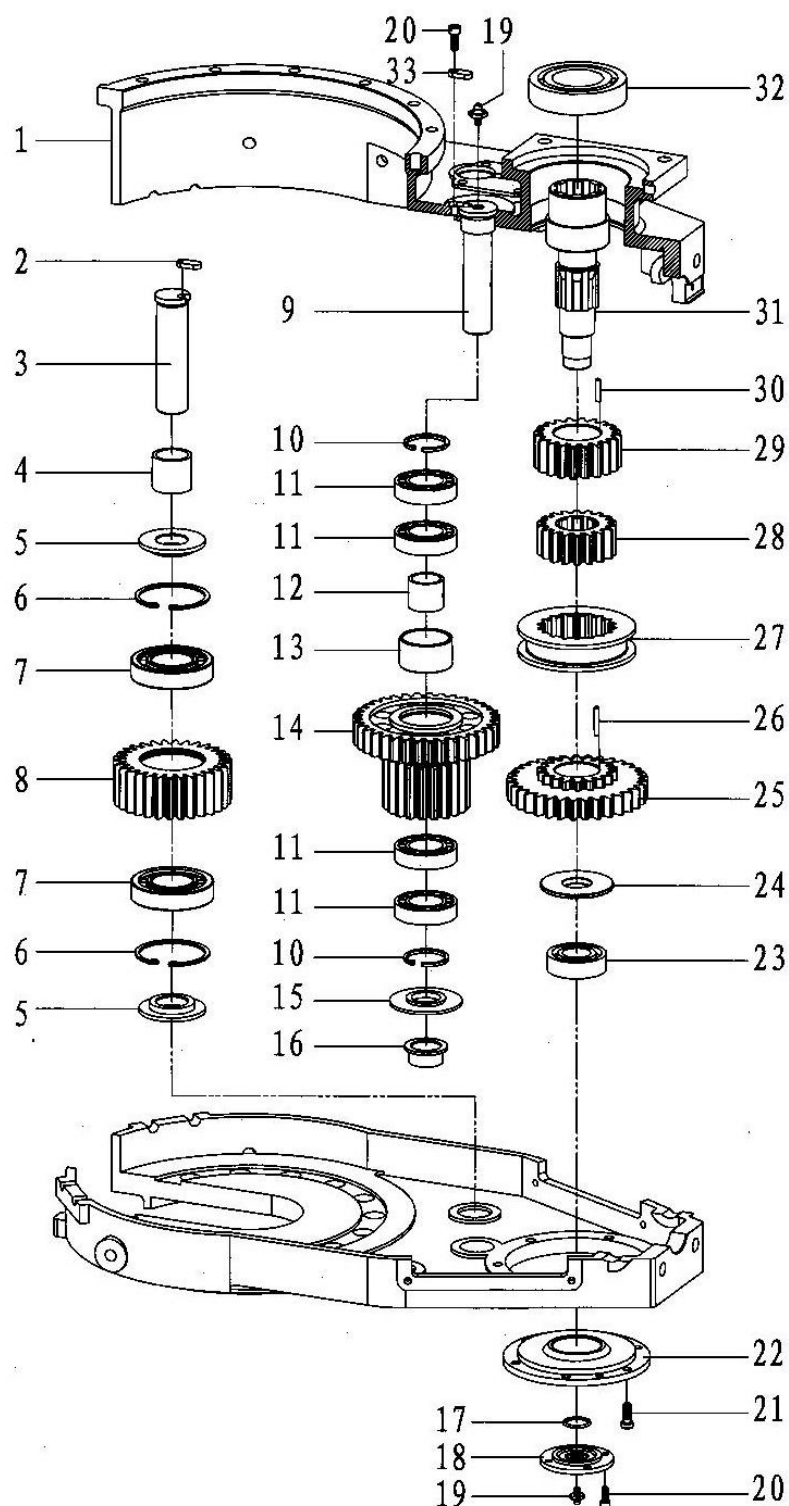

Fig.8-7
8.7 Transmission mechanism and parts list(Fig.8-7, Table 8-7)